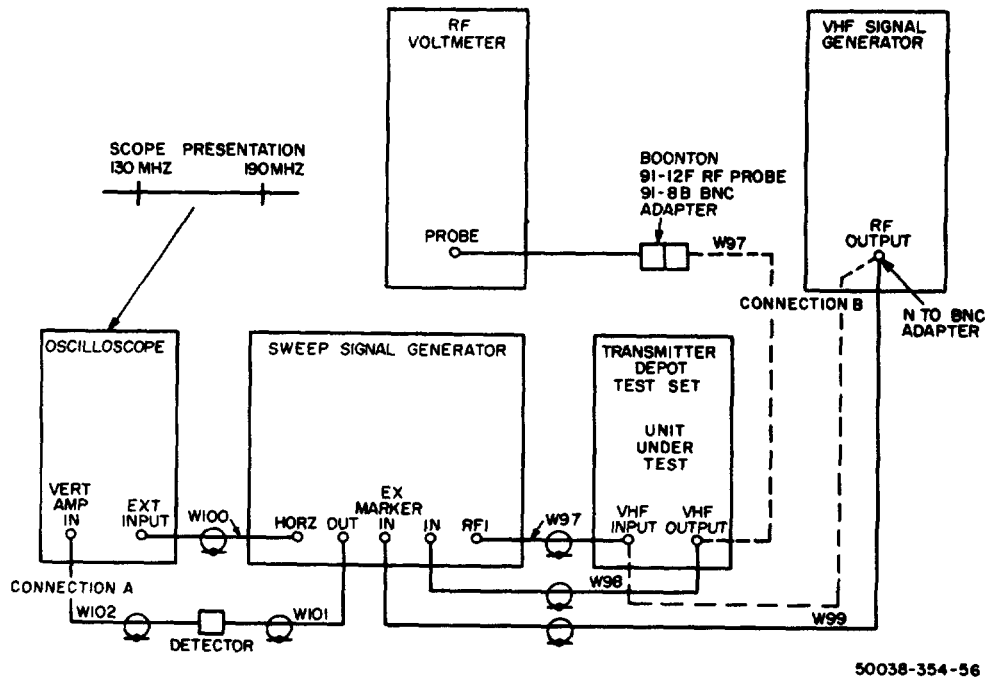

Figure 1. Vhf amplifier 1A1A2 calibration interconnection diagram.
(1) Interconnect unit under test and calibration equipment as shown in figure 1, CONNECTION A.
(6) Observe that oscilloscope trace is flat and symmetrical for sweep from 130 to 190 MHz as illustrated in figure 1.
(7) Remove rf cables from unit under test VHF INPUT/OUTPUT connectors.
(8) Connect vhf signal generator RF OUTPUT connector to unit under test VHF INPUT connector (fig. 1, CONNECTION B).
(9) Connect rf voltmeter to unit under test VHF OUTPUT connector.
(10) Set vhf signal generator for 130 MHz at 75 millivolt operation.
(11) Set rf voltmeter to 1000 millivolt scale.
(13) Observe that rf voltmeter indicates 400 millivolts minimum for each setting.